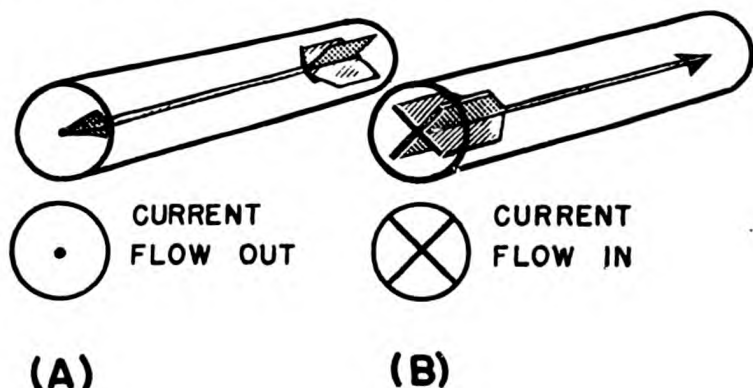

Figure 108.—Dot-cross method of indicating current direction.
In (A) of figure 108, you have a conductor with current flowing toward you. Note the use of the symbol \odot . It represents the tip, or pointed end, of an imaginary arrow in flight in the same direction as the current.
In (B) of figure 108, you have a conductor with the current flowing away from you. The symbol \otimes represents the feathered end of an imaginary arrow, again in flight in the direction of the current.